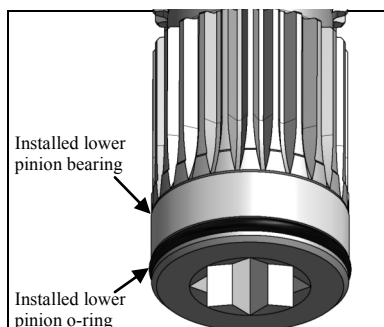

Fig. 9.1
- a. Pinion: Install lower pinion bearing and lower pinion o-ring. (Fig. 9.1)